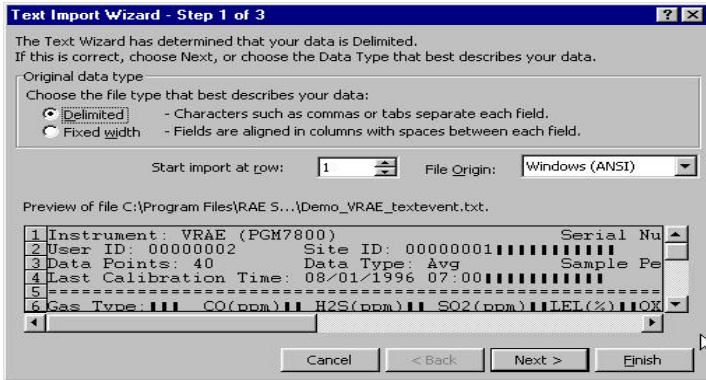

Figure C-3 Text Import Wizard Dialog Box
2. Click **OK** button, a **Text Import Wizard** dialog box is open, as shown in Figure C-3.